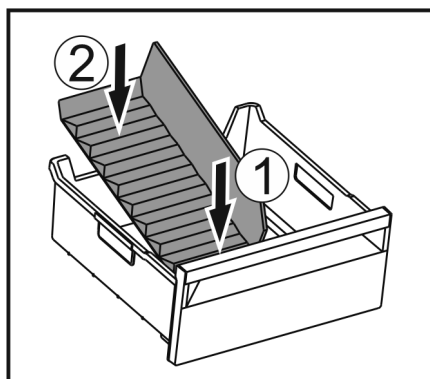

Fig. 196
- Insert the front part of the ice compartment divider. Fig. 196 (1)
- Lower the rear part of the ice compartment divider to the drawer bottom. Fig. 196 (2)